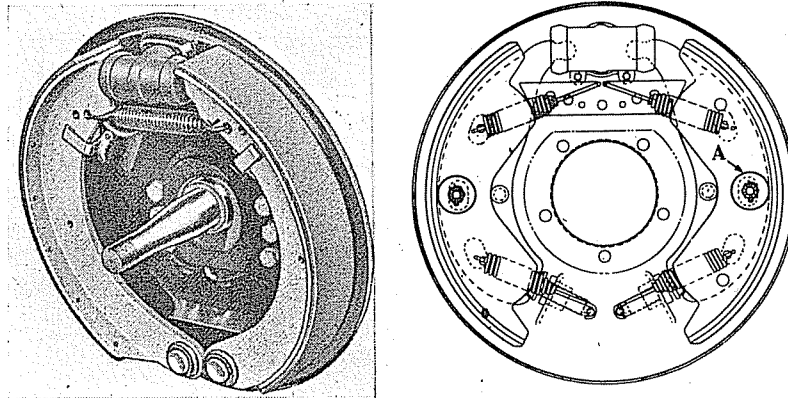

Fig. 2—Typical Front and Rear Brake Assemblies — Models 2-26A, 2-33A.
- (b) The double piston brakes (Figure 2) have only one cylinder in each wheel. Each cylinder has two pistons which work in opposite directions. This type of brake is used at both the front and rear wheels of models 2-26A and 2-33A and on the front wheels of 1-08A. The fixed shoe type used on wheels equipped with